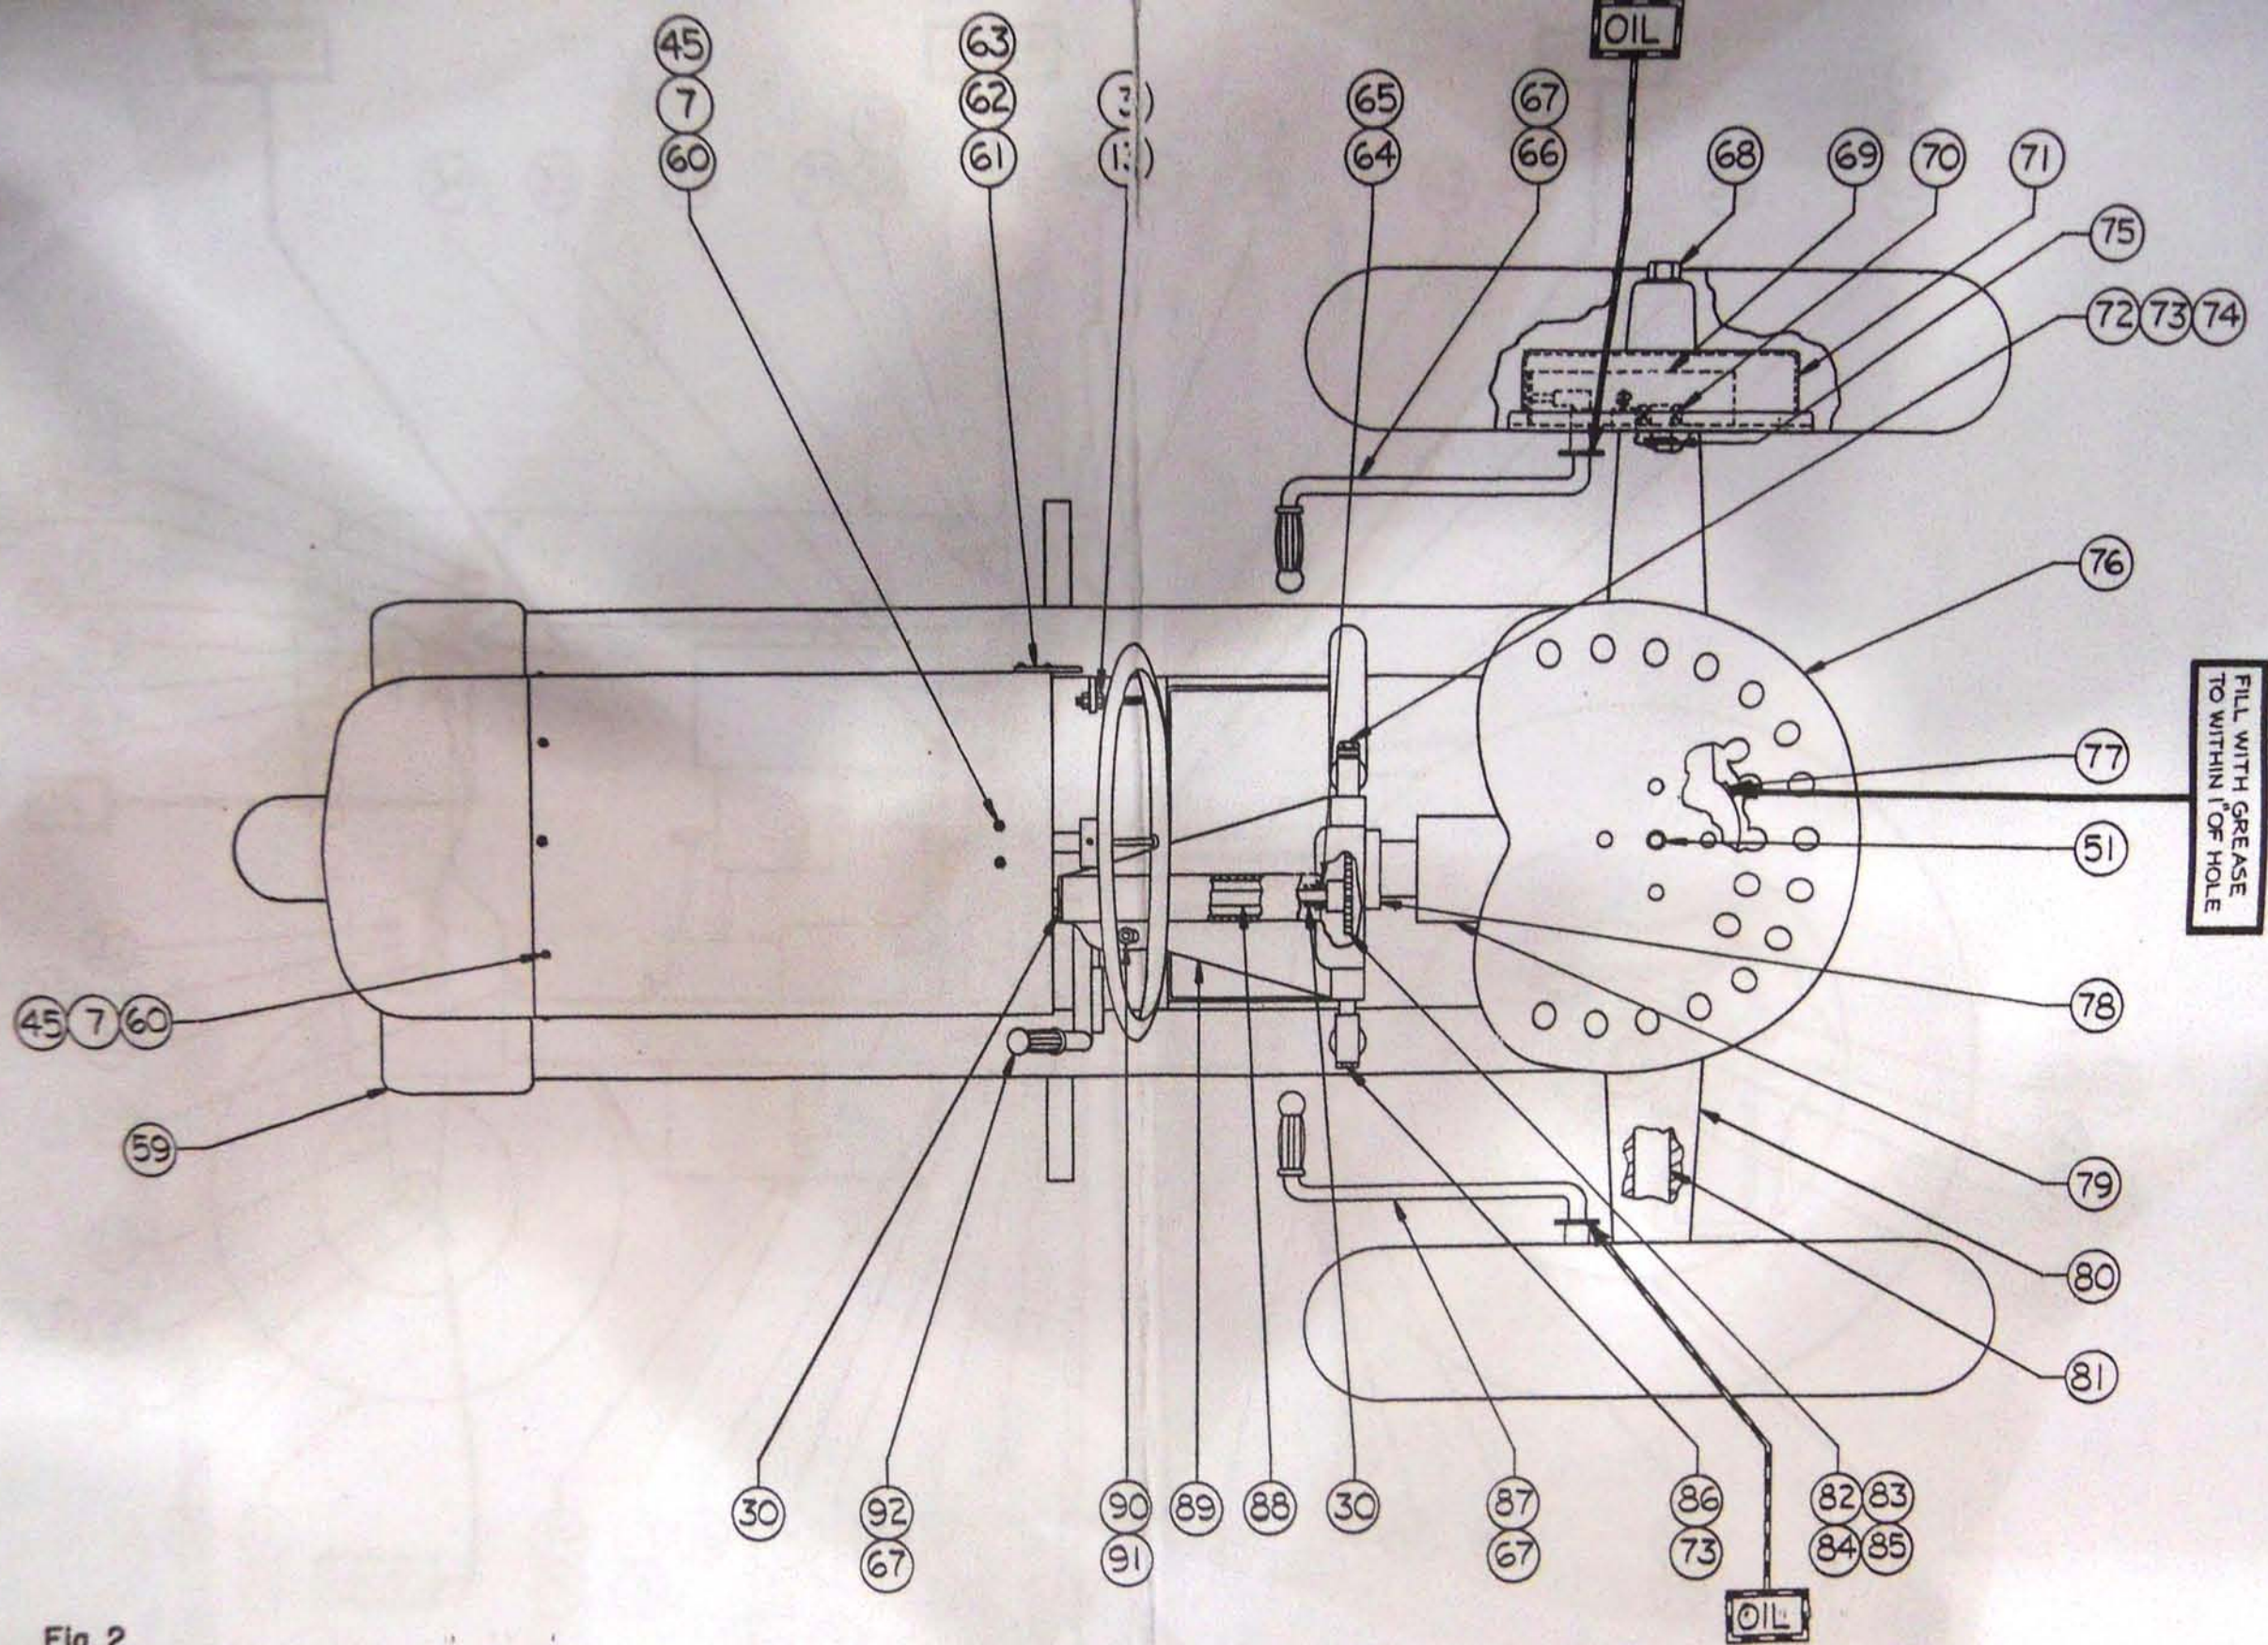
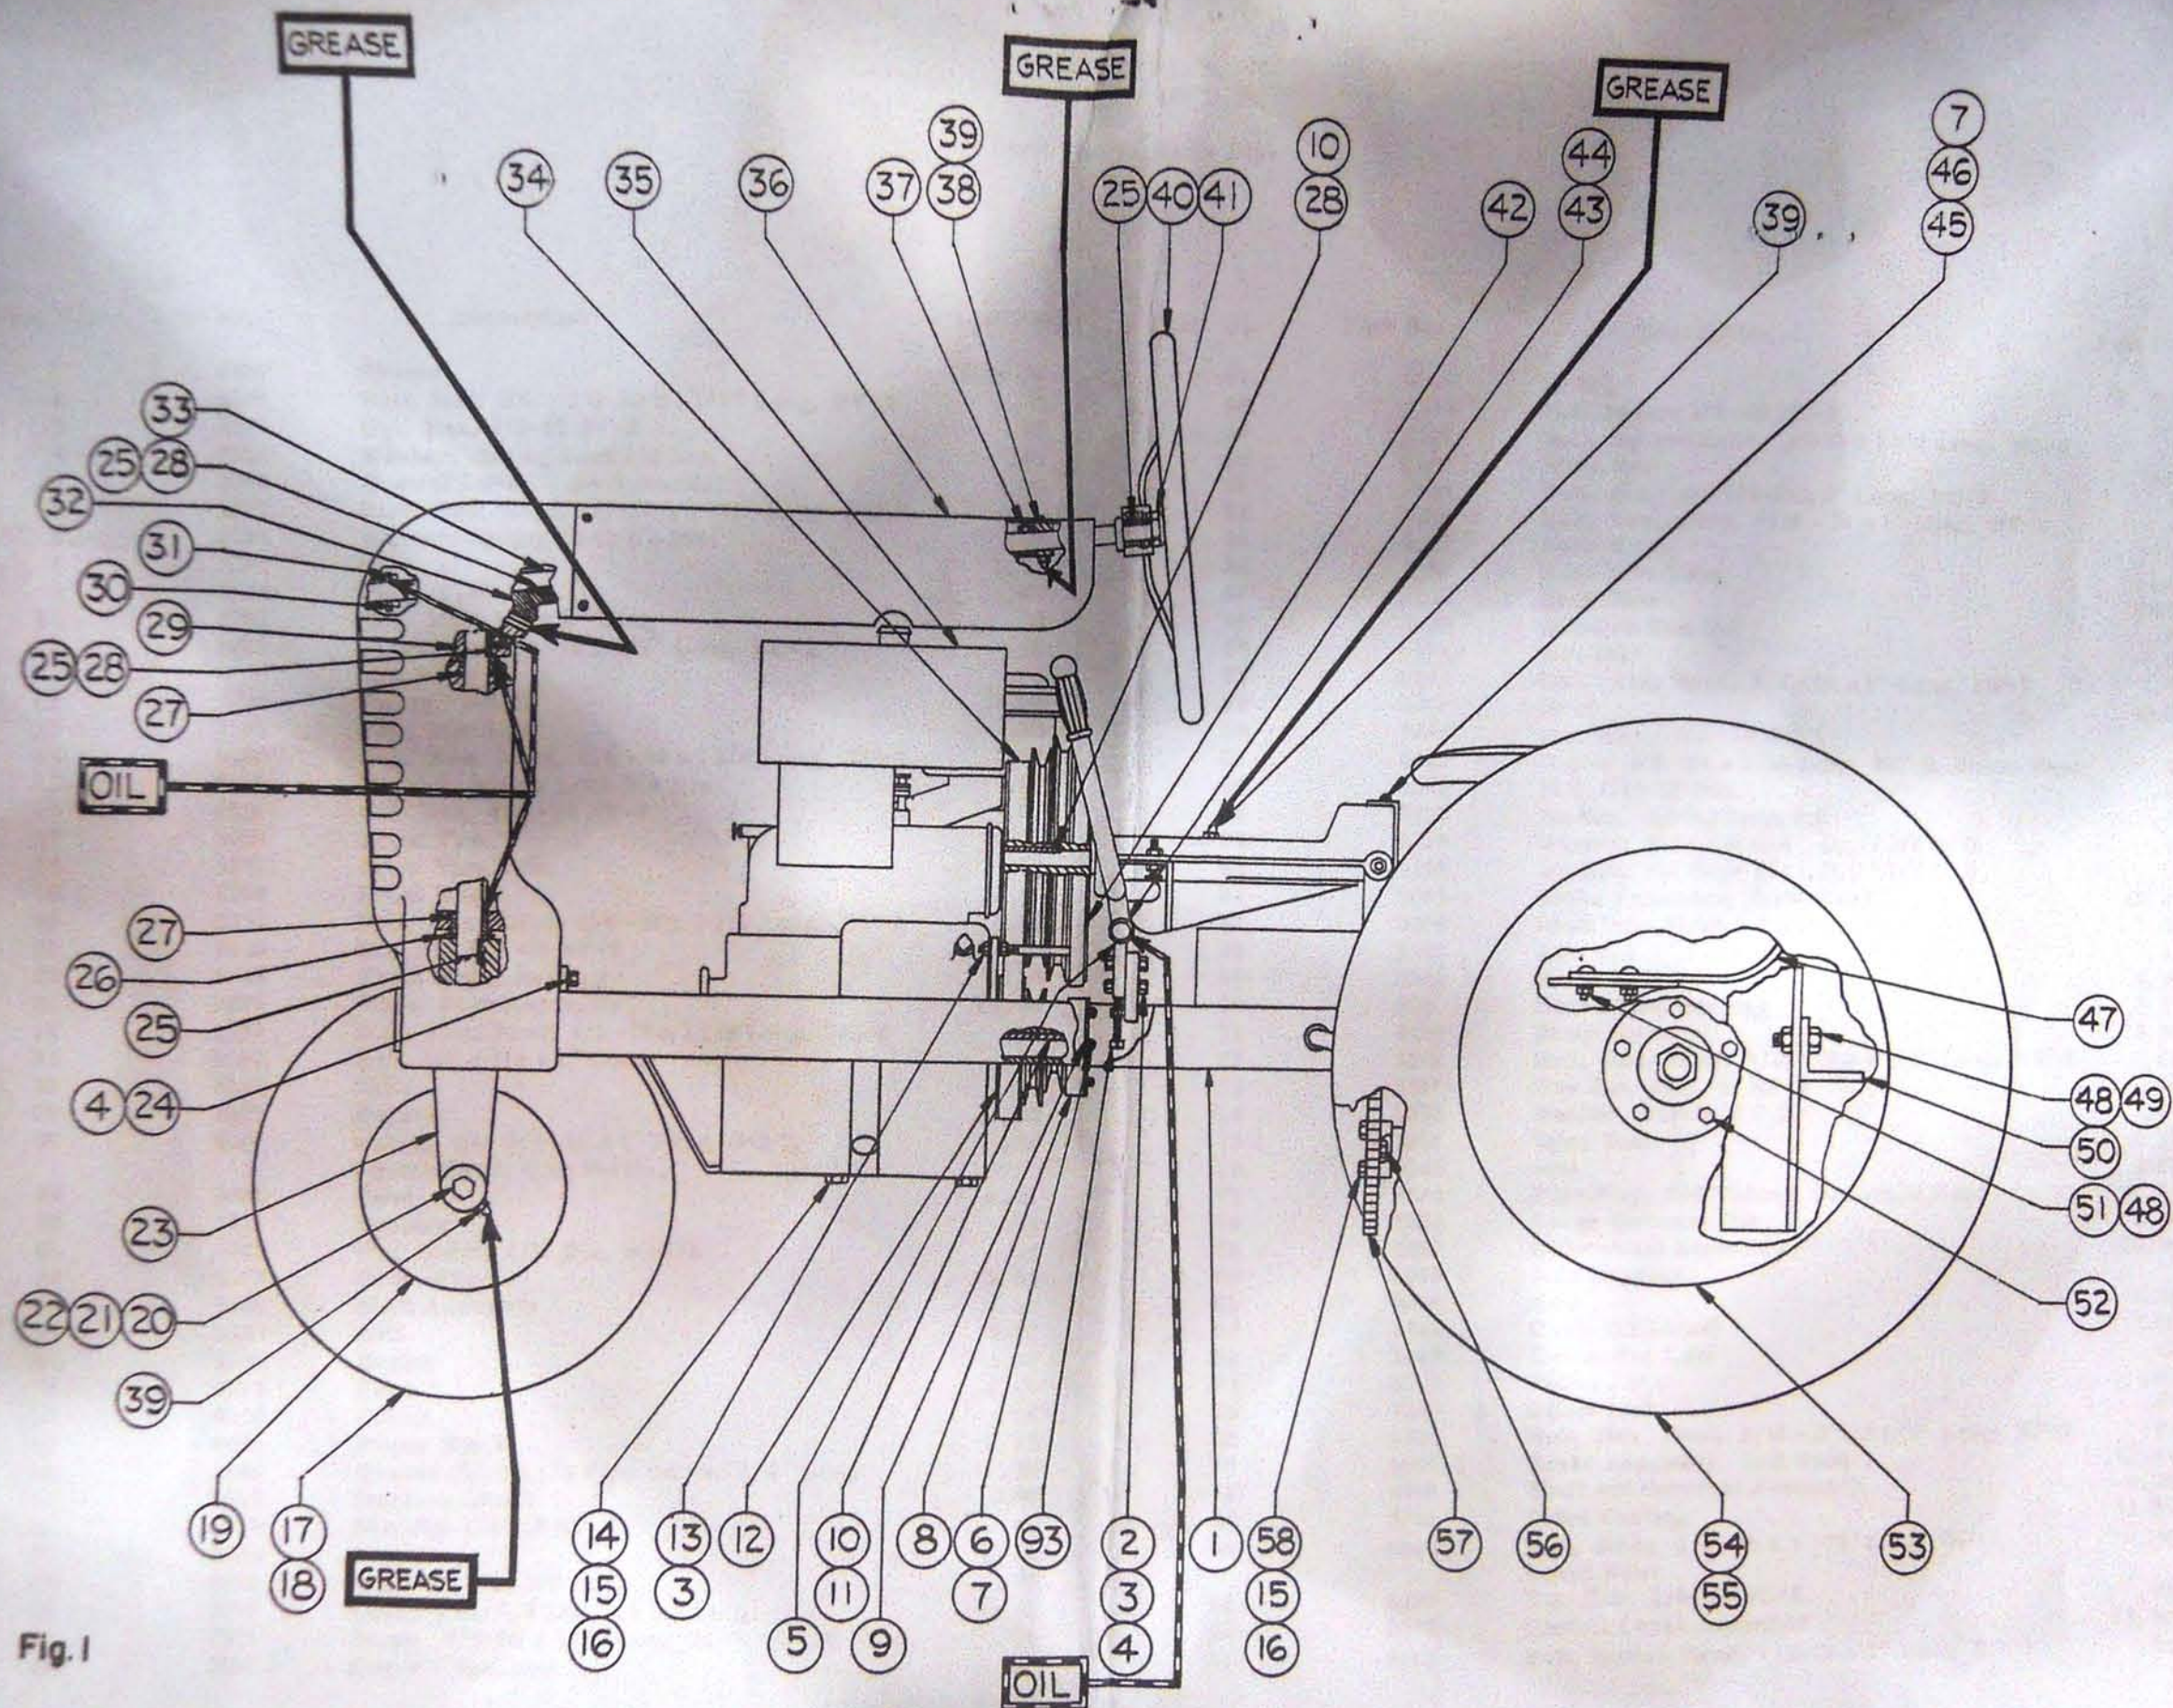

Fig. 2
Fig.1
2. Fill differential housing to 1" below filling hole with #90 transmission grease (Fig. 2).
3. Oil all points shown on Fig. 1 and Fig. 2, with #20 motor oil.
4. Grease (3) Alemite grease fittings, (39) Fig. 1, and steering gear mesh shown on Fig. 1, with grease gun.
Grease and oil points shown on Fig. 1 and Fig. 2 after every 8 hours of operation.
5. Check Tires, (54) (55) Fig. 1, inflate, if necessary, to satisfactory working pressure. This pressure may be determined by noting bulge of sidewall at ground. Inflate until this bulge is not excessive.
1. Start Engine with Control Lever, (92) Fig. 2, always in neutral position or half way back. (See Engine Instruction Manual for engine starting instructions.)
3. Tighten (2) Locking Bolts.
4. Adjust Bolt and Nut, (90) (91) Fig. 2, at front end of Drive Casting, (89) Fig. 2, up or down and back and forth, so that when Control Lever rests against head of Bolt, large friction wheel in upper Pulley, (42) Fig. 1, clears small friction Disc, (8) Fig. 1, on lower Pulley, (12) Fig. 1, by approximately 1/8"
1. Remove Sprocket Cover, (46) Fig. 1, loosen and tighten respectively the (2) pivot Bolts, (72) and (86) Fig. 2, which position Drive Casting.
2. Tighten elastic Stop Nuts, (73) Fig. 2, so that Drive Casting has no side play but not so tight that it binds against the Nuts.
3. After adjusting Chain, (82) Fig. 2, adjust (2) belt guide Bolts, (13) Fig. 1, and Fig. 2, by loosening the Nuts, (3) Fig. 1 and Fig. 2, and sliding the Bolts in their slots, rotating as required, so that the Belt clears Bolts by approximately 3/16" when Control Lever is all the way forward no matter in which pulley groove Belt is located.
1. Remove the four Bolts, (6) Fig. 1, in rear of Motor Pulley and remove Disc Plate, (9) Fig. 1, and Disc, (8) Fig. 1.
1. Remove Bolt, (51) Fig. 2, in center of Seat, (76) Fig. 2, and move Seat forward or backward as desired.
2. For additional adjustment of Seat, remove (2) Bolts, (51) Fig. 1, which hold Seat Spring, (47) Fig. 1, to seat spring bracket and move Seat Spring forward or backward as desired.
1. Turn Steering Wheel, (40) Fig. 1, to its limit and apply inside Wheel Brake, (66) or (87) Fig. 2.
2. Pull Control Lever all the way to rear and move Belt, (34) Fig. 1, from one pulley step to another.
3. Use low speed, (small step on Motor Pulley, (12) Fig. 1), for plowing or any extremely heavy loads.
2. Loosen (2) Locking Bolts (2) Fig. 1, which hold Control Lever Tube Assembly, (5) Fig. 1, and turn Vertical Adjusting Screw, (93) Fig. 1, under Control Lever Tube Assembly as required.
1. Remove (2) Bolts, (49) Fig. 1, which hold Draw Bar, (50) Fig. 1, to (2) vertical draw bar supports and raise, lower, move sideways or tilt Draw Bar as desired.